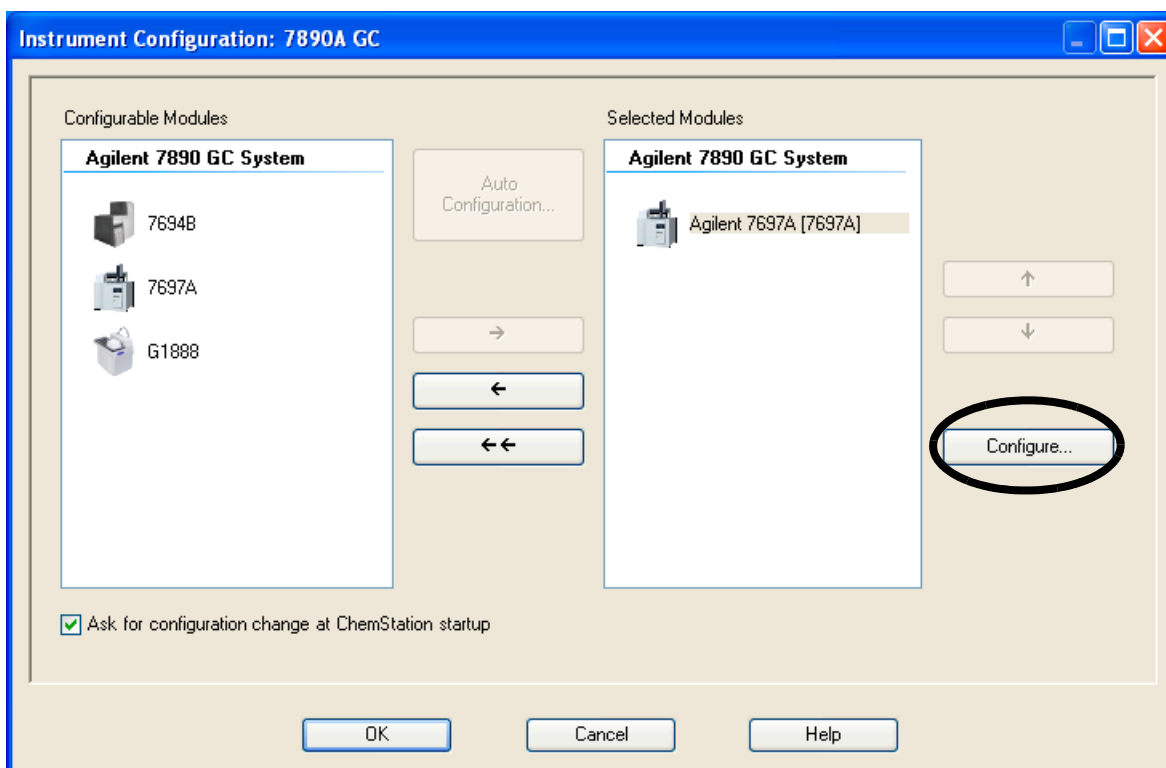

**Figure 6** Instrument Configuration
- 3 Use **Instrument Configuration** to configure your HS (Figure 6). Select **Configure...** to view configuration parameters and licensing information for the selected instrument. Refer to the software help for more information.